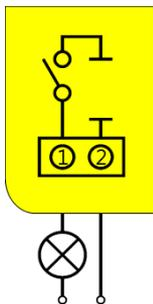

Fig. 6 Open Collector Output
Fig. 6 shows the connection of the first of the four open collector (OC) outputs of the DO4-O module.